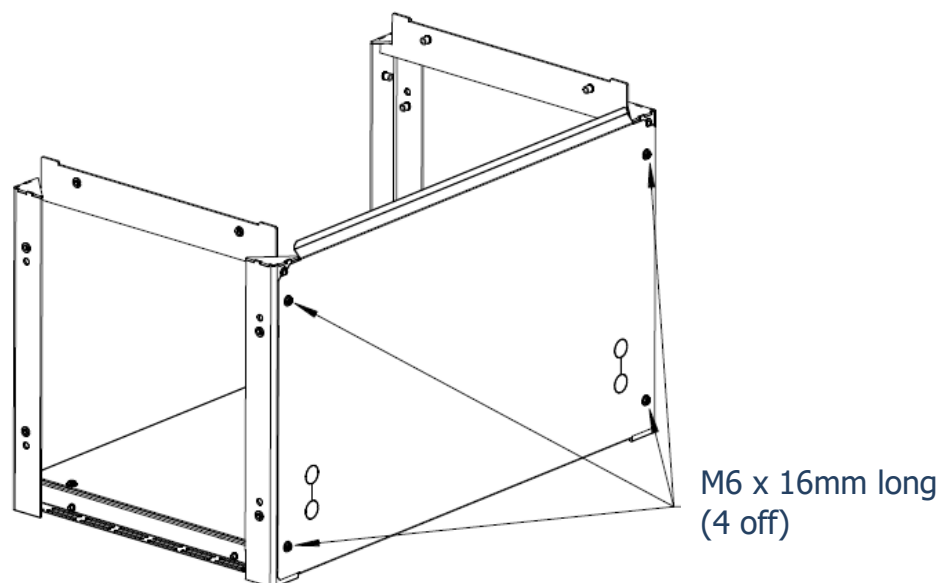

Figure 5
- Locate the Rear Cover (with knockouts) onto the Frames as shown in Figure 5